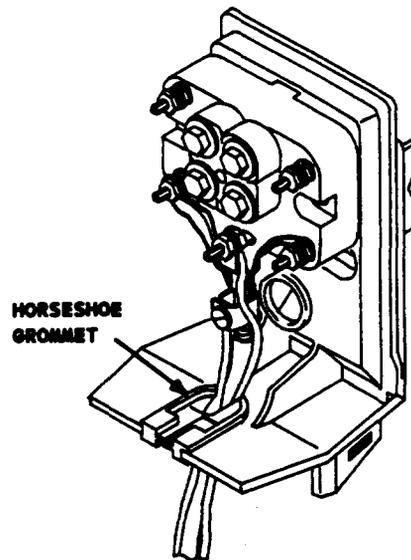

Figure 18. Securing Wires in Grommet
- (3) Secure all of the wires in the slit of the horseshoe grommet (Figure 18).
- (4) Follow paragraph 5.02, Steps (2) through (9) for the installation and wiring of the 400 series NIU.